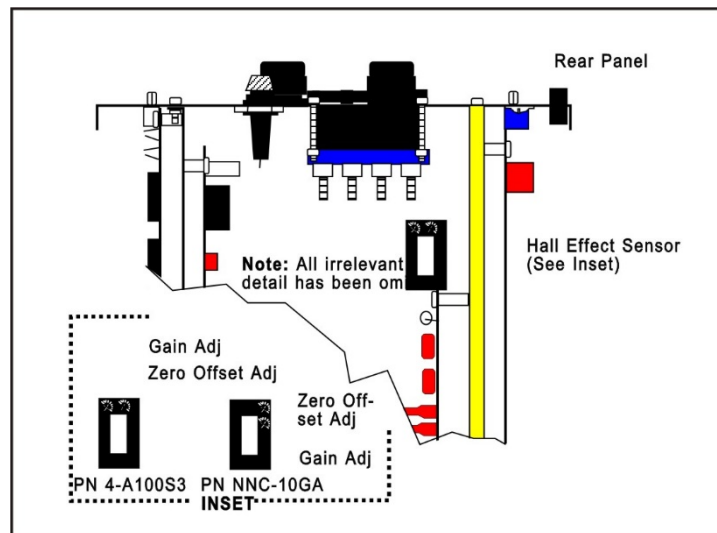

Figure 2
13. Remove the jumper wire from R121. Move the jumper on E24 to the **NORM** position. If **PASS** is not displayed on the screen, locate the hall effect sensor (see Figure 2) in the HF2 and adjust the zero offset potentiometer on the sensor. When **PASS** is displayed on the screen, press **RUN** to continue. **NOTE:** Both the zero offset and gain potentiometers will be adjusted later in this procedure.
3. Connect the voltmeter leads to test point TP9 and the grounded side of capacitor C147 on the Main Board. (The grounded side of C147 is the side closest to the rear of the HF2, next to diode CR48.) Verify that the zero offset of the hall effect sensor provides a reading of 0.0 VDC +0V/-3mV. Adjust the zero offset potentiometer if necessary (refer to Figure 2 for the location of the sensor and its adjustments).